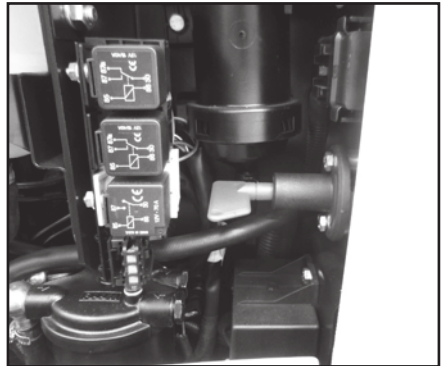

Fig. 5.18.2
- The switch is set to the "OFF" position by turning it 1/4 of a turn in the anti-clockwise direction: electrical system not powered (Fig. 5.18.2);